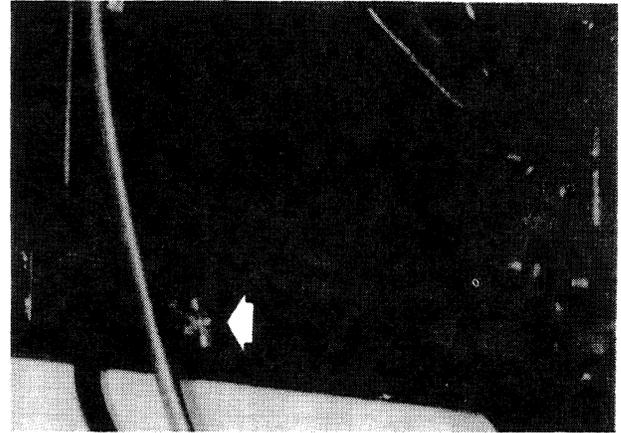

FIGURE 2-1: Radiator Drain
1. Drain cooling system through draincock on bottom left hand corner of the radiator (Figure 2-1).